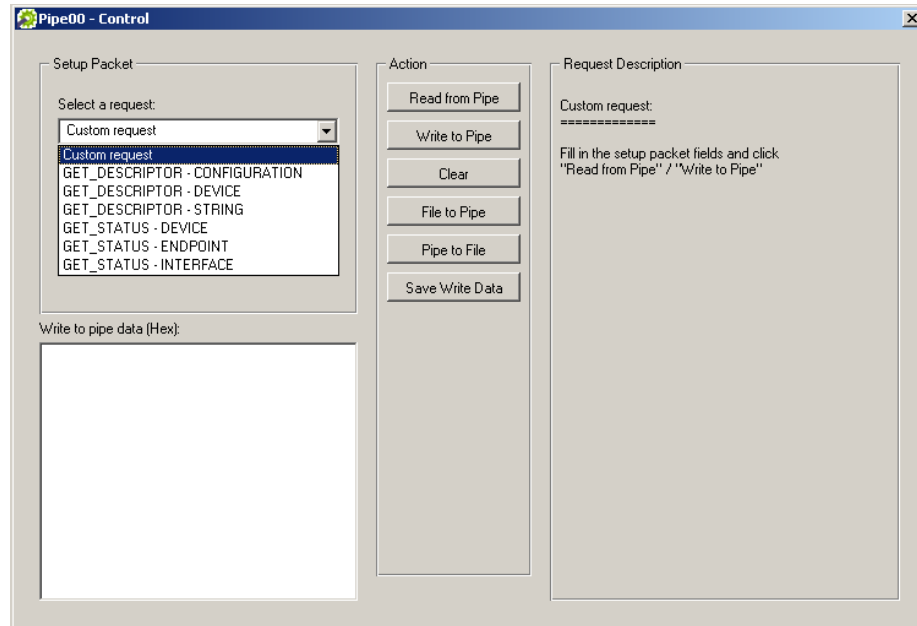

Figure 9.4: Request List
- For a standard USB request: select a USB request from the requests list, which includes requests such as **GET\_DESCRIPTOR CONFIGURATION**, **GET\_DESCRIPTOR DEVICE**, **GET\_STATUS DEVICE**, etc. (see Figure 9.4). The description of the selected request will be displayed in the **Request Description** box on the right hand of the dialog window.